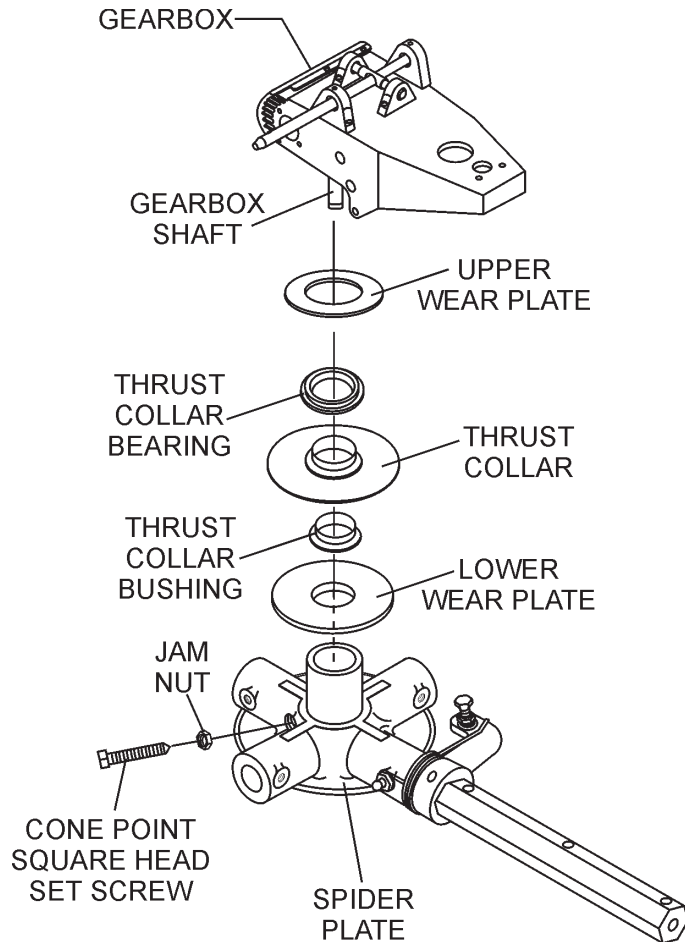

Figure 21. Spider/Gearbox Removal
- a. Locate cone point square head set screw (Figure 21) and attached jam nut found on the side of the spider assembly.
- c. If the trowel is equipped with an outer stabilizer ring (Figure 21), remove the four bolts at the end of each spider arm.